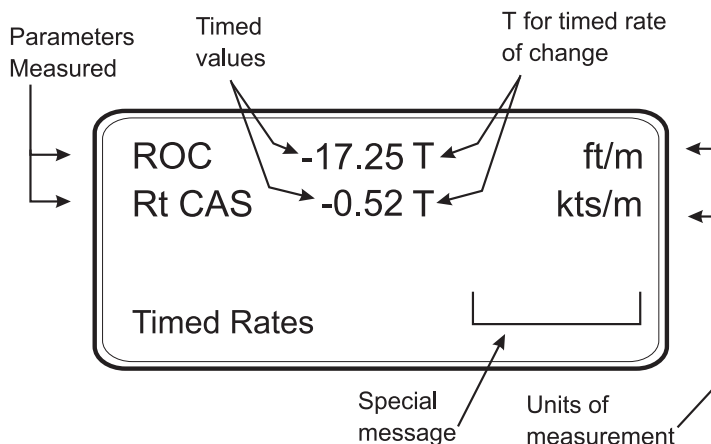
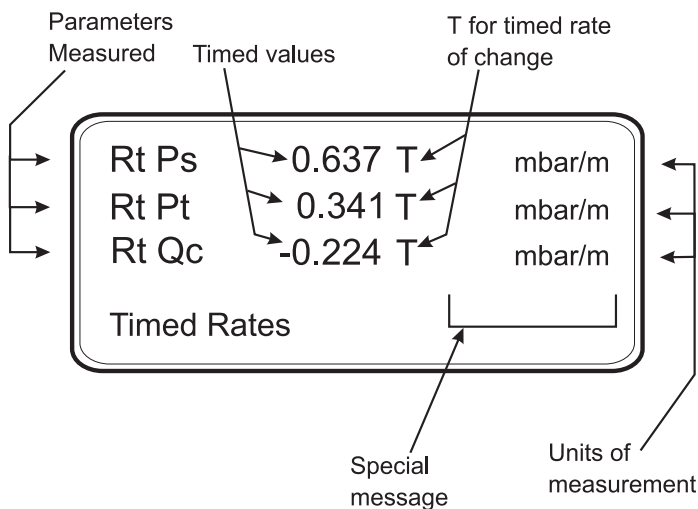

FIGURE 3-7 RATE TIMER DISPLAY AERONAUTICAL UNITS
FIGURE 3-8 RATE TIMER DISPLAY PRESSURE UNITS
3.10 Rate Timer Displays (Fig 3.7 and Fig 3.8)